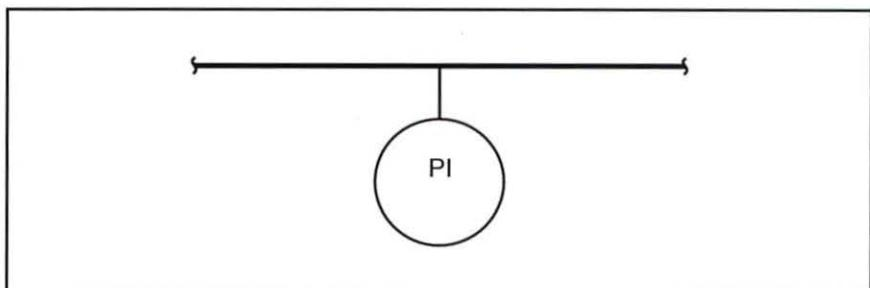

Figure 64. Flow Sensing Element Symbol
3. Determine what type of pressure sensing element symbol is shown in figure 64.